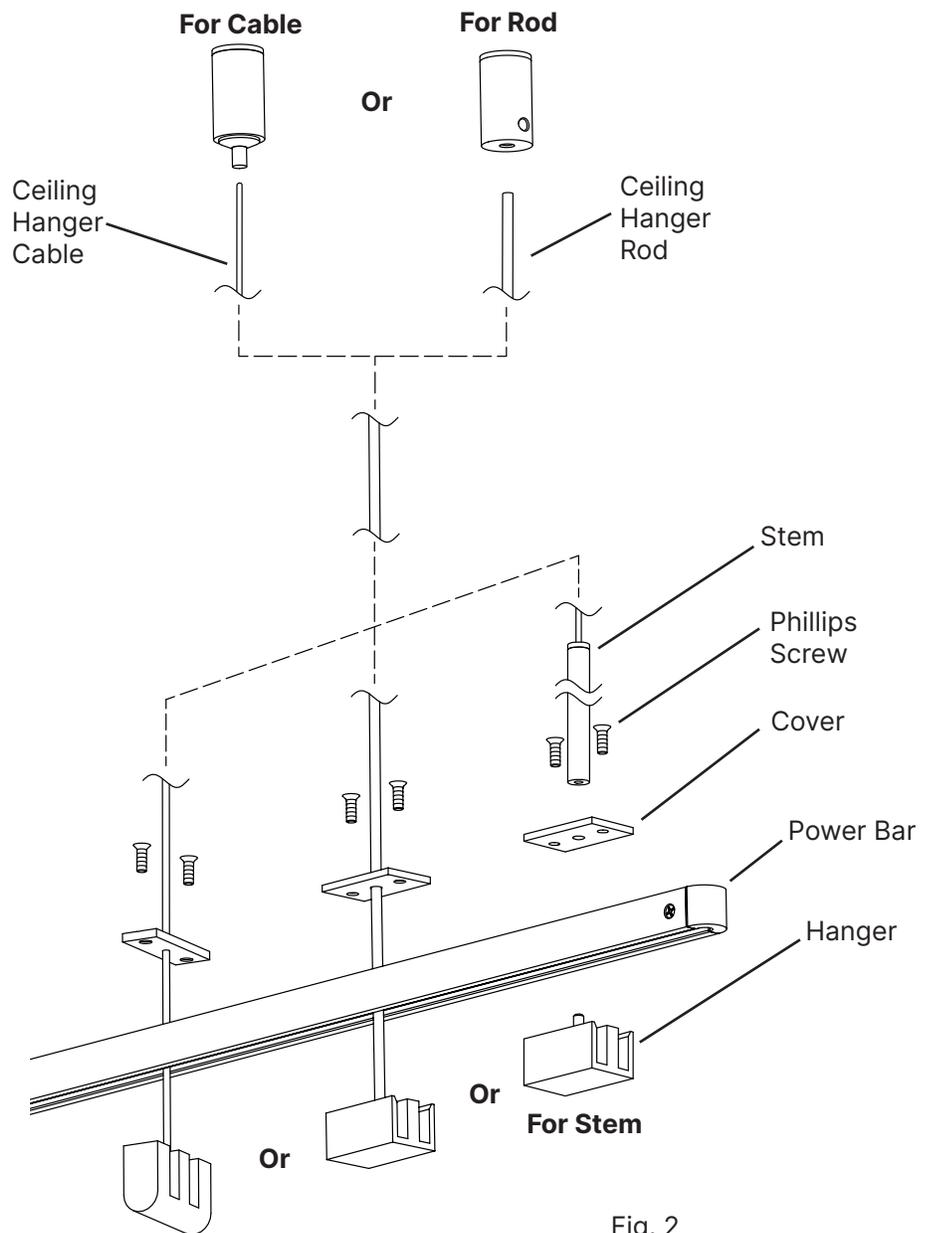

Fig. 2
3. For Hanger with **Stem**: Hand screw the Stem onto the Ceiling Hanger. (Fig. 2)
- b. For Cable Hanger: Insert **Cable** into Post, then adjust to the desired length: to shorten, push the Cable up; to lengthen, push in the **Plunger** while pulling down on the cable, release the Plunger to lock. Cut off the excess cable where it exits the Post (Fig. 2).